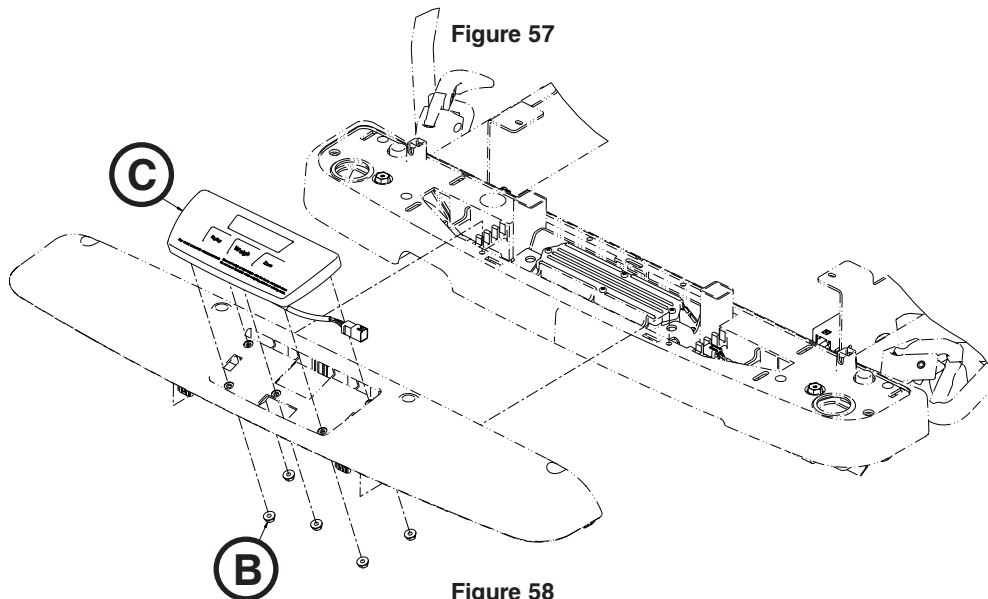

Figure 58
5. Using a 11/32" nut driver, remove the five hex flange nuts (B) that hold the scale keypad assembly (C) to the cover (Figure 58).